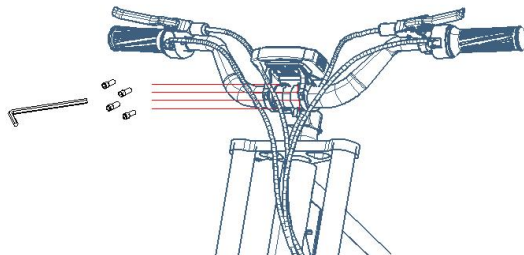

Figure 2-1-2
2.2.Assemble the handlebar: Put the handlebar into the center of the vertical bar, fasten the screws by using NO.4 Allen Wrench (Figure 2-1-2) 。